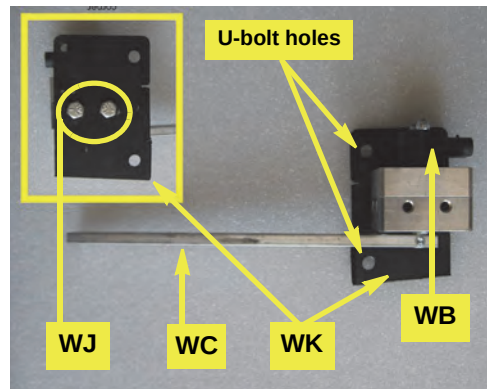

Figure 2a: WAS assembly mounted on its bracket
- a. Using bolts **WJ** install the WAS assembly from step 1 on bracket **WK**. Have the wire connector **WB** on top, pointing away from the two, wider, U-bolt holes. Connector arm **WC**'s working arc will be toward the front of the machine (Figure 2a).